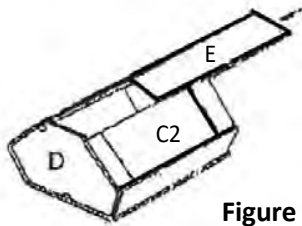
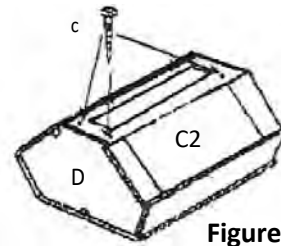

Figure 6
Figure 7
**5. Installing the Back Panel (Figure 6):** Slide the back panel (E) into grooves of rear side panels (C1 & C2) Make sure the finished side of panel is towards the inside of the cabinet. Once the back panel is assigned and fitted tight, secure it with 1" Back Panel Screws (c) into the pre-drilled holes on the back panel (Figure 7).